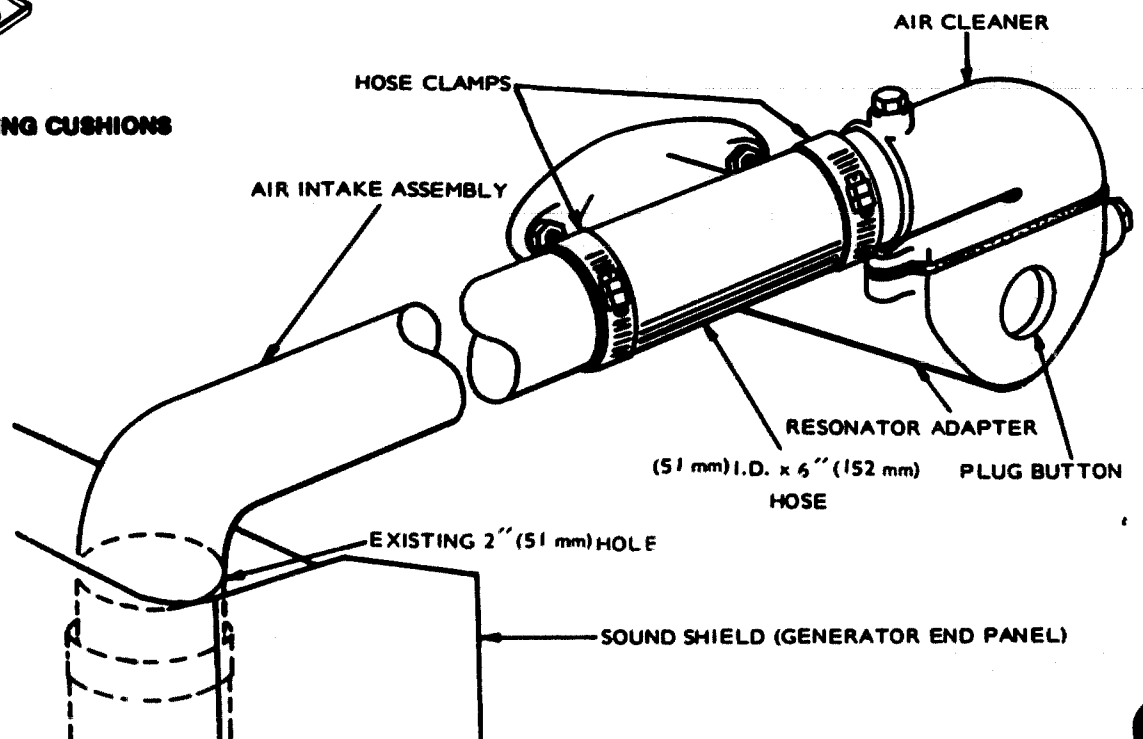

FIGURE 3. AIR INTAKE COMPONENT ARRANGEMENT
2. Install plug button in existing air intake hole in the resonator adapter. See Figure 3. Bend ears on plug button so ears are flush with adapter.